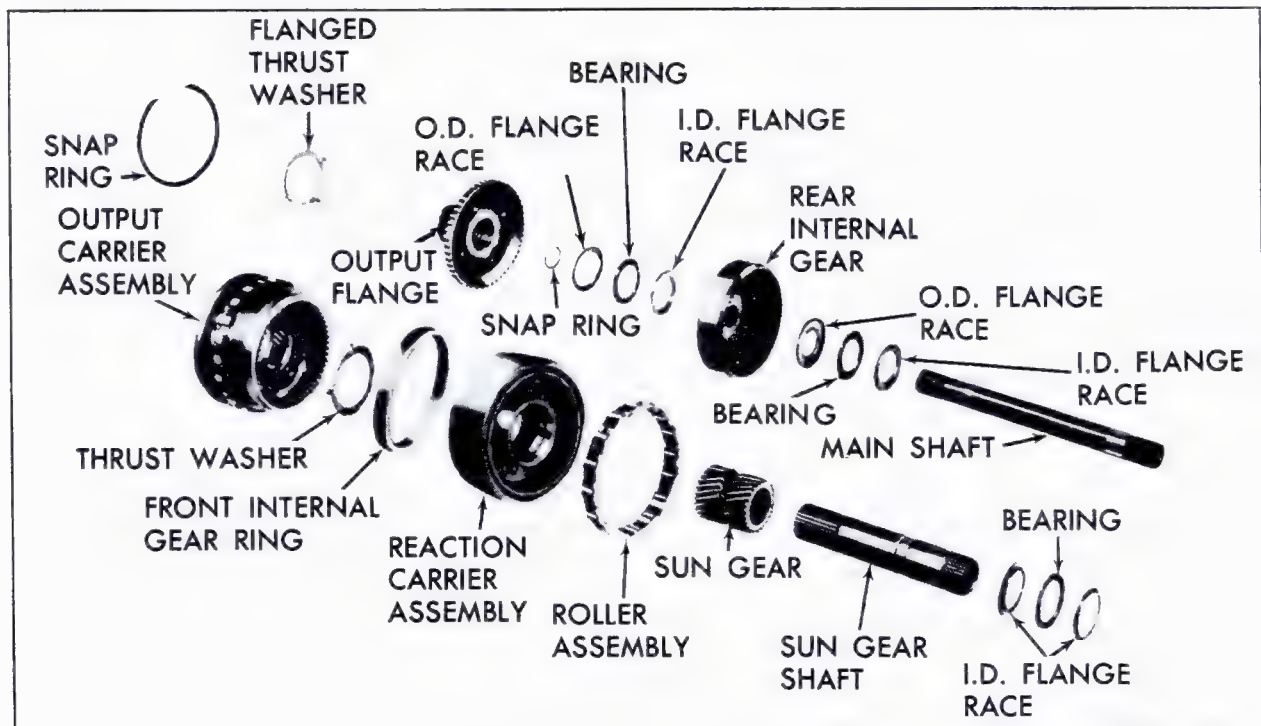

Fig. 7-181 Gear Unit Assembly Disassembled
11. Assemble Gear Unit (Fig. 7-181)